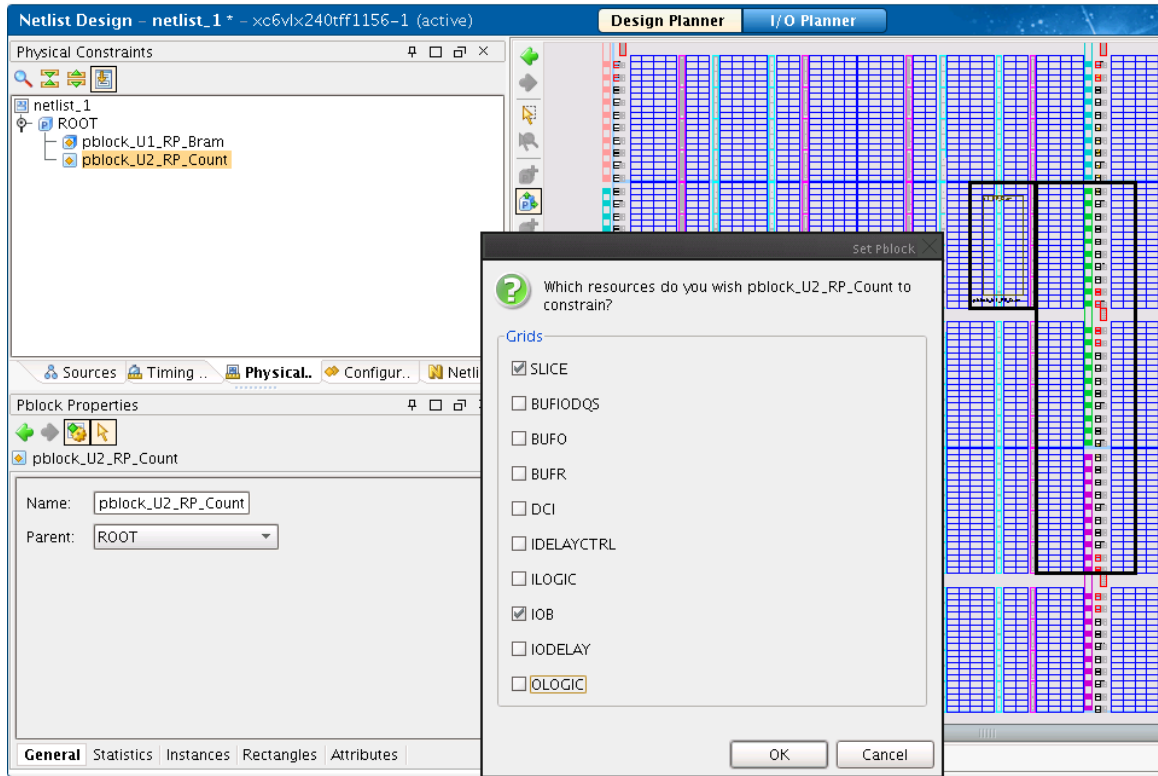

Figure 13: Setting Pblock Resources (pblock_U2_RP_Count)
- 6-2-2. After drawing the rectangle, select **SLICE** and **IOB** resources for the AG as shown in Figure 13.
- 6-2-6.** Verify the RAMB36 required for U1_RP_Bram is included in the AG Range. Select the pblock_U1_RP_Bram from the Physical Constraints window, and view the Statistics shown in the Pblock Properties window, as shown in Figure 13. Note that the available number of RAMBFIFO36E1 exceeds the required amount.